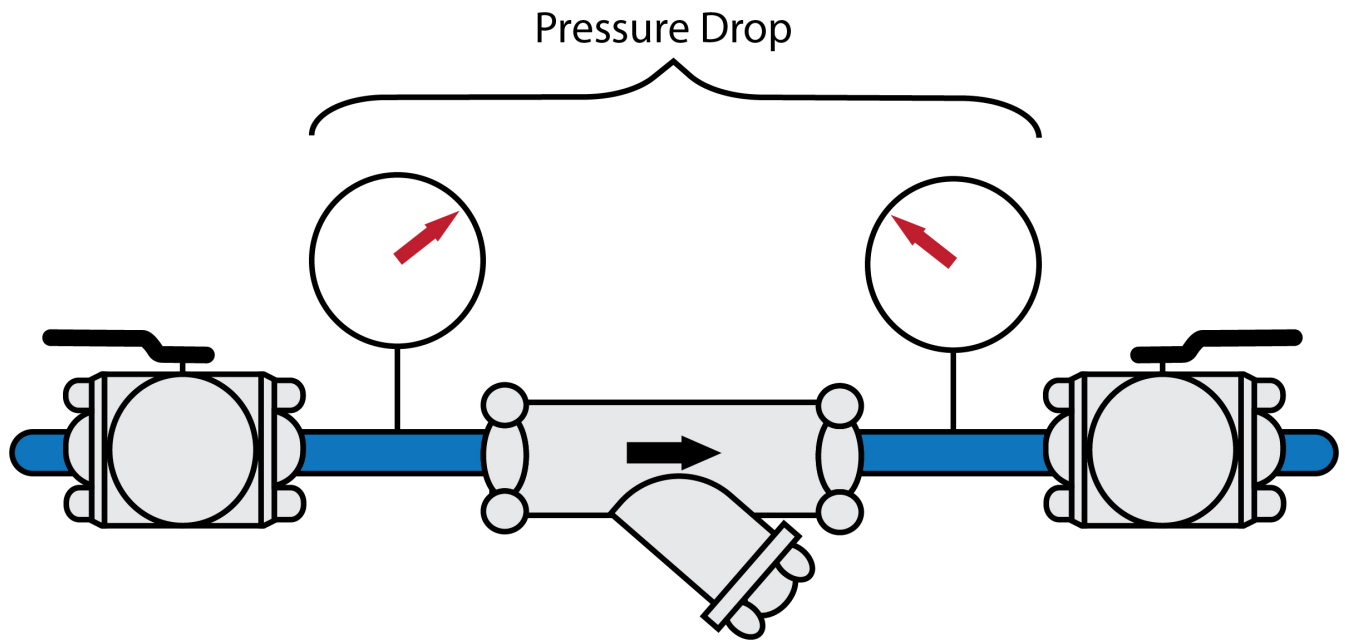

Figure 33 Monitored strainer pressure drop. (Caleffi, idronics™, 2014 [modified]). Caleffi S.p.A. All rights reserved. Used with permission.
Basket strainers, also known as Y-strainers (Figure 33), trap dirt within a mesh basket made of stainless steel or brass. A strainer should be installed just upstream of the pump in order to protect the pump. It is important to maintain the strainer so there is not an excessive accumulation of debris on the inside the strainers basket, which will restrict flow. The strainer normally has a tapping with a plug, or a blow-down valve can be installed to allow for easier cleaning. A blowdown is a drain point used to flush out sediment captured in the strainer.
- **Figure 33** Monitored strainer pressure drop [Figure 3-14, modified] is by Caleffi Hydronic Solutions (2014, p. 20) in *idronics*TM and is used with permission.